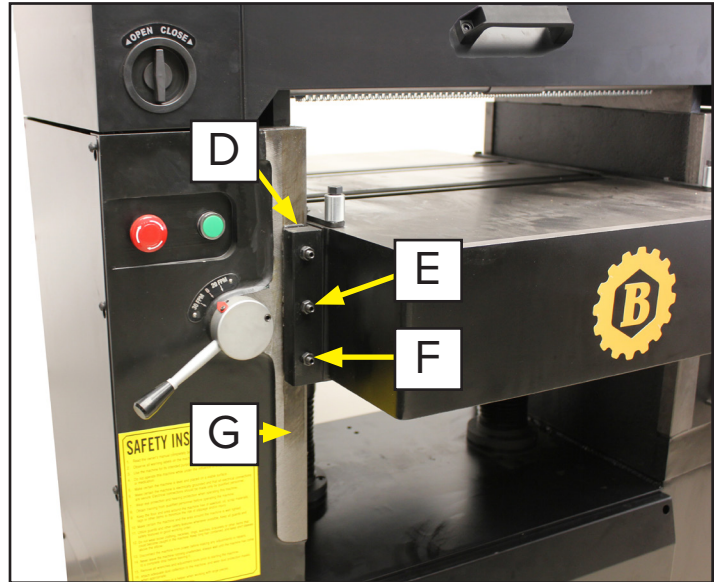

Figure 19: Adjusting the table gibs.
1. Loosen the hex nuts (E, Figure 19.)
2. Turn the gib screws (F, Figure 19) until the gibs (D, Figure 19) lightly contact the ways (G, Figure 19).